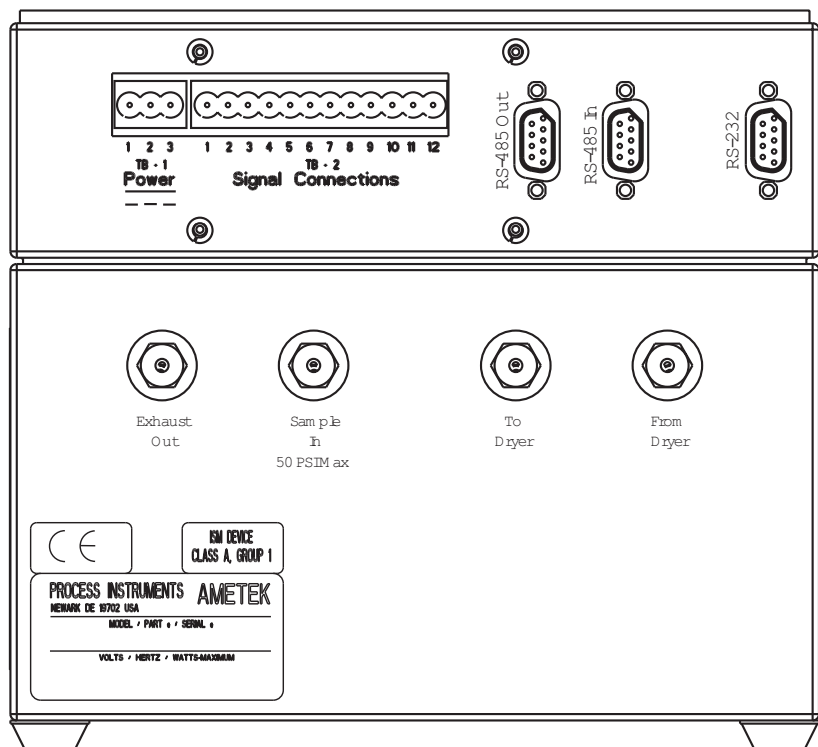

Figure 2-5.
2. Connect the 4–20 mA analog output and alarm contacts from the analyzer to user recording equipment (Figures 2-5 and 2-6).